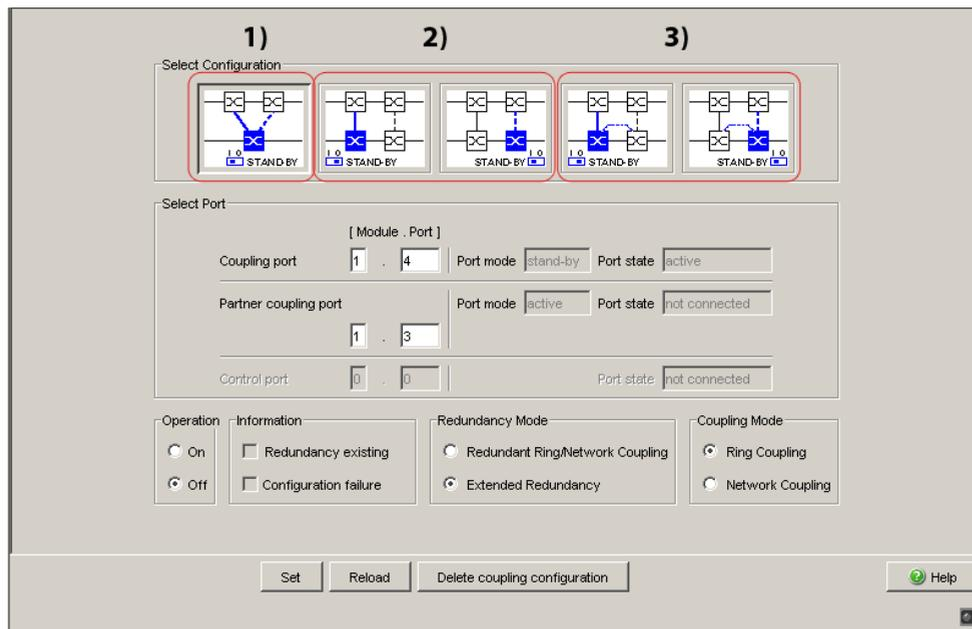

Figure 7: Choosing the ring coupling configuration (when the DIP switch is off, or for devices without a DIP switch)
- You first select the configuration you want: One-Switch coupling ("1"), two-Switch coupling ("2") or two-Switch coupling with control line ("3"), (see figure 7).